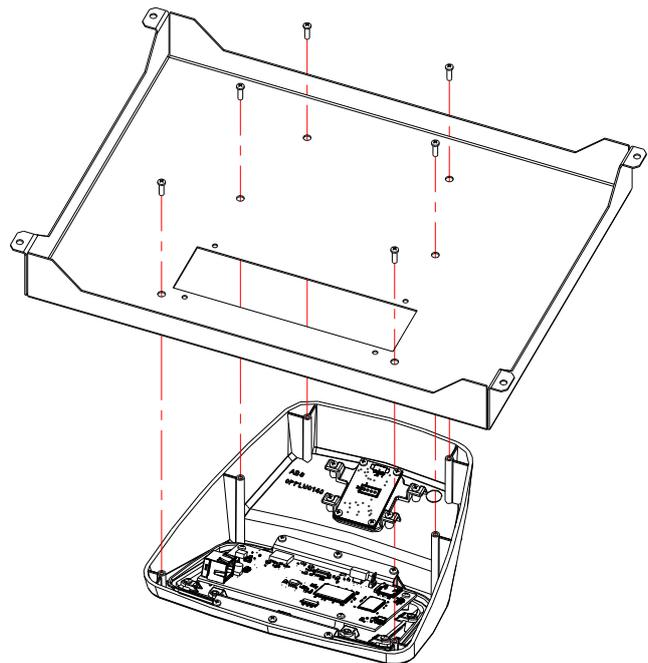

Figure 20
- 3) Remove the four screws as shown in Figure 20.